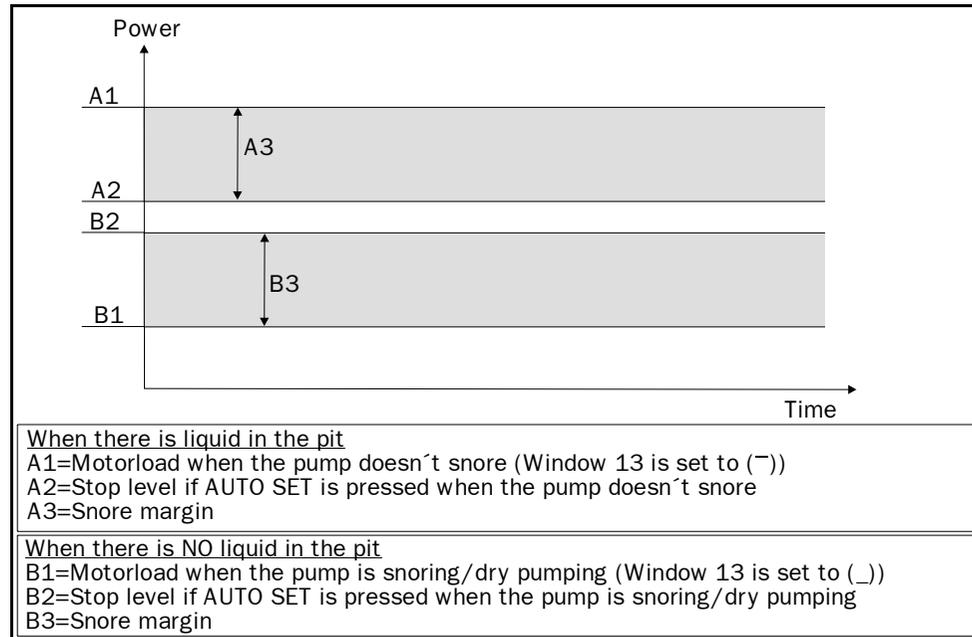
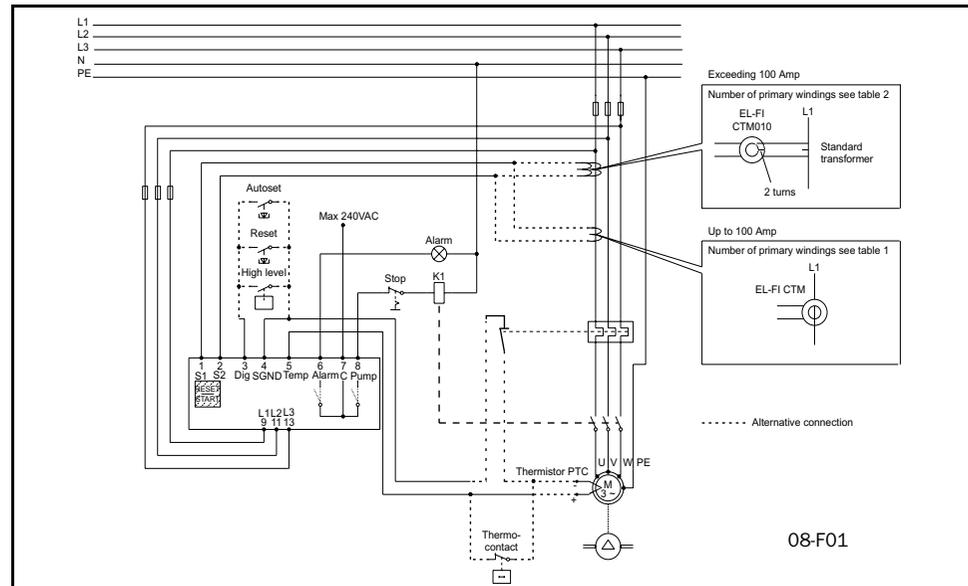

Fig. 8 Type of Auto Set
Fig. 9 Single-pump example.
Connect El-Fi DCM (3-phase installation) directly to the pump motor supply cable via terminals 9 (L1), 11 (L2), and 13 (L3). Make the connection before the contactor of the motor, to ensure that the monitor also receives power when the motor is not in use. When motor fuses larger than 10 A are used, the monitor (power consumption 6 VA) must be fused independently, see Fig. 9, page 25.
Connect the current transformer to terminal 1 (S1) and terminal 2 (S2). The transformer **MUST** be linked to the phase connected to terminal 9 (L1), see Fig. 9, page 25.
When two current transformers are used (for motors with a rated current greater than 100 A), always connect the El-Fi CTM010 to the monitor and one other standard current transformer with 2 primary windings through the El-Fi CTM010, see Fig. 9, page 25.
Terminals 6 and 7 are the alarm relay connections. Terminal 6 (ALARM) is the alarm relay output. Terminal 7 (C) is the common input for the alarm relay, see Fig. 9, page 25.
Terminal 8 (PUMP) is an operating relay output. Terminal 7 (C) is the common input for the operation relay, see Fig. 9, page 25.
See Fig. 9, page 25 and Table 8, on page 51, Window 53.
Terminals 4 and 5 are the temperature measuring input and/or motor protection contact connections. The motor protection relay can be connected in series with the temperature sensor. The terminals are galvanically isolated. Terminal 5 (TEMP) is for a PTC-type thermistor or thermocontact. The sensor must have a resistance of less than 800ohm under normal operation and more than 3kohm at high temperature. Internal supply 12 V. Short-circuit current 2 to 2.5 mA. Terminal 4 (SGND) is the signal ground for the temperature measuring input. See Fig. 9, page 25 and Table 8, page 51, Windows 31 and 32.
3. In window 13 select type of Auto Set. Set the window to (⌊) if the pump is pumping without snoring (there is liquid in the pit). Set the window to (⌋) if the pump is snoring (no liquid in the pit) set, see Fig. 8, page 23.
7. In window 31, if the pump has a temperature sensor and/or motor protection, set the temperature monitoring to (on). If not, set the window to (OFF). See chapter 6.5, page 42 and Fig. 9, page 25.
13. In window 53 set the required function for the digital input (DIG), Value: (1) high-level switch, (2) external reset, (3) external Auto Set, chapter 4.1.5, page 27.
15. Check that the pump is pumping in accordance to the setting in window 13 (set the stop level in window 11 to 0 (default) if the pump stops before or during the Auto Set). Press the AUTO SET button and hold for 3 seconds until SEt appears in the window. The stop level (window 11) becomes measured power (window 04) minus snore margin (window 12) if window 13 is set to (¯). The stop level (window 11) becomes measured power (window 04) plus snore margin (window 12) if window 13 is set to (¸), see Fig. 8, page 23.
4. In window 13 select type of Auto Set. Set the window to (⌊) if the pump is pumping without snoring (there is liquid in the pit). Set the window to (⌋) if the pump is snoring (no liquid in the pit), see Fig. 8, page 23.
14. In window 53 on both DCMs. Set the required function for the digital input (DIG), value (1) high-level switch, (2) external reset, see chapter 5.1.4, page 35.